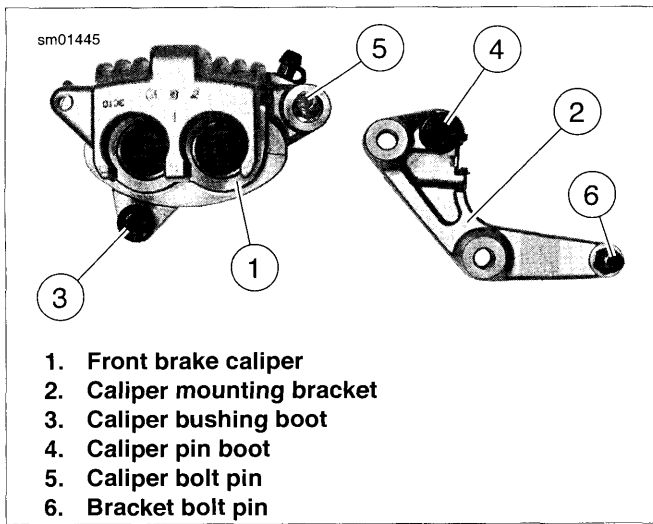

Figure 2-65. Lubricating Caliper Boots and Pins
1. See Figure 2-65. Apply approximately 0.4 g of G40M BRAKE GREASE inside caliper bushing boot (3) and caliper pin boot (4).